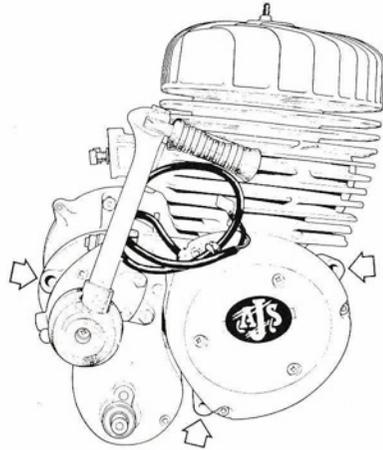

Fig. 1 Engine mounting points.
- 12 Remove the bottom engine mounting stud from the left side. (See Fig. 1.)
- 13 Remove the rear mounting stud then support the engine unit and remove the front stud. (See Fig. 1.)